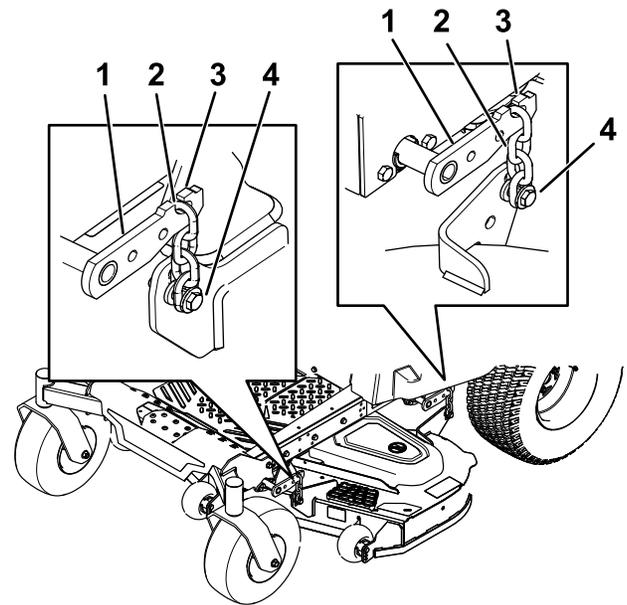

Figure 59
5. Loosen the adjustment bolts on all 4 corners so that the deck is sitting securely on all 4 blocks (Figure 59).
6. Ensure that there is tension on all 4 chains (Figure 59).
7. Tighten the 4 adjustment bolts (Figure 59).